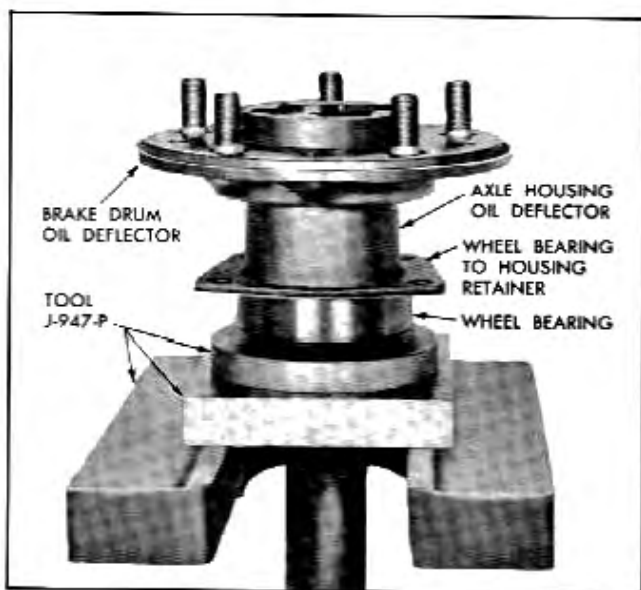

Fig. 4-10 Bearing Remover and Replacer Tool J-947-P in Place for Pressing Bearing on Shaft
4. If removed, install oil deflector and bearing outer retainer plate and gasket on shaft. Install bearing on shaft using tool J-947-P to bear only on inner race and press bearing firmly against shoulder on shaft (Fig. 4-10).